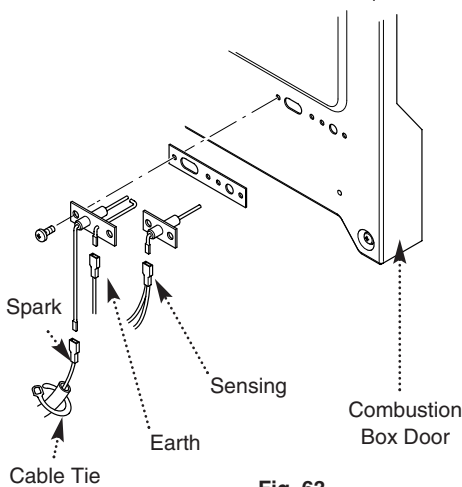

Fig. 64
13.16 Spark and Sensing Electrodes (Fig. 64)